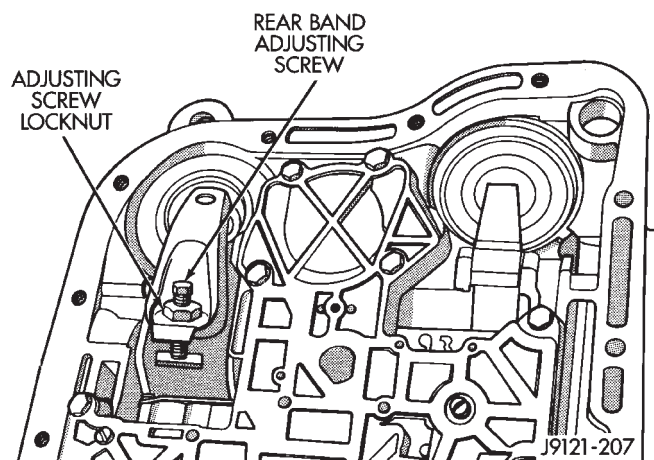

Fig. 8 Rear Band Adjustment Screw Location
- (1) Raise vehicle.
- (2) Remove transmission oil pan and drain fluid.
- (3) Loosen band adjusting screw locknut 5-6 turns. Be sure adjusting screw turns freely in lever. Lubricate screw threads if necessary.
- (4) Tighten adjusting screw to 8 N•m (72 in. lbs.) torque (Fig. 8). Use inch-pound Torque Wrench C-3380-A for adjustment.
- (5) Back off band adjusting screw 2 turns.
- (6) Hold adjusting screw in place and tighten locknut to 34 N•m (25 ft. lbs.) torque.
- (7) Clean oil pan, pan magnet and gasket surface of case. Also inspect and replace fluid filter if necessary.